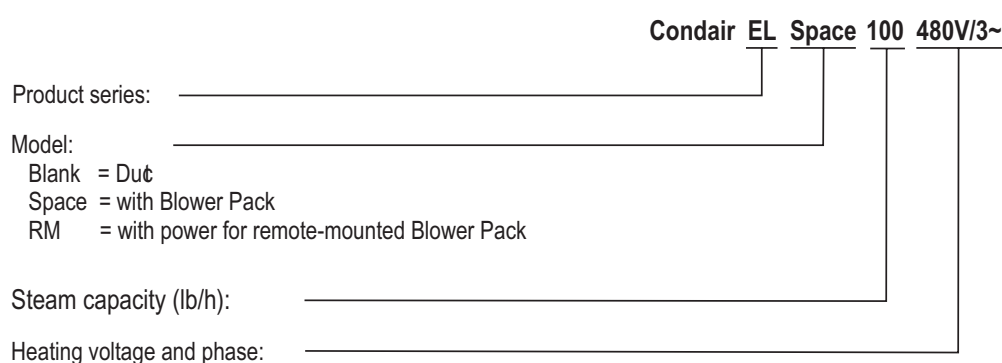
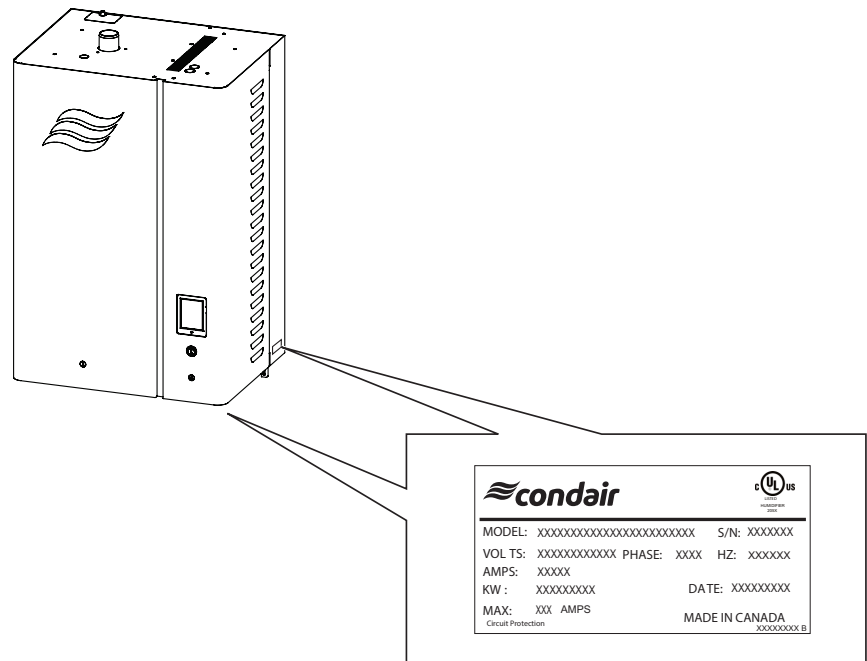

Figure 2: Model Breakdown
Figure 3: Condair EL Steam Humidifier Specification Label
- Verify the model type on the rating label to ensure that it is suitable for your installation. Refer to Figure 3 on page 13.
The specification label on the side (and the underside) of the Condair EL steam humidifier shows its model number, serial number and ratings – refer to Figure 3 on page 13. The breakdown of the model number is shown in Figure 2. For other details of the specification label refer to the Operation and Maintenance Manual.